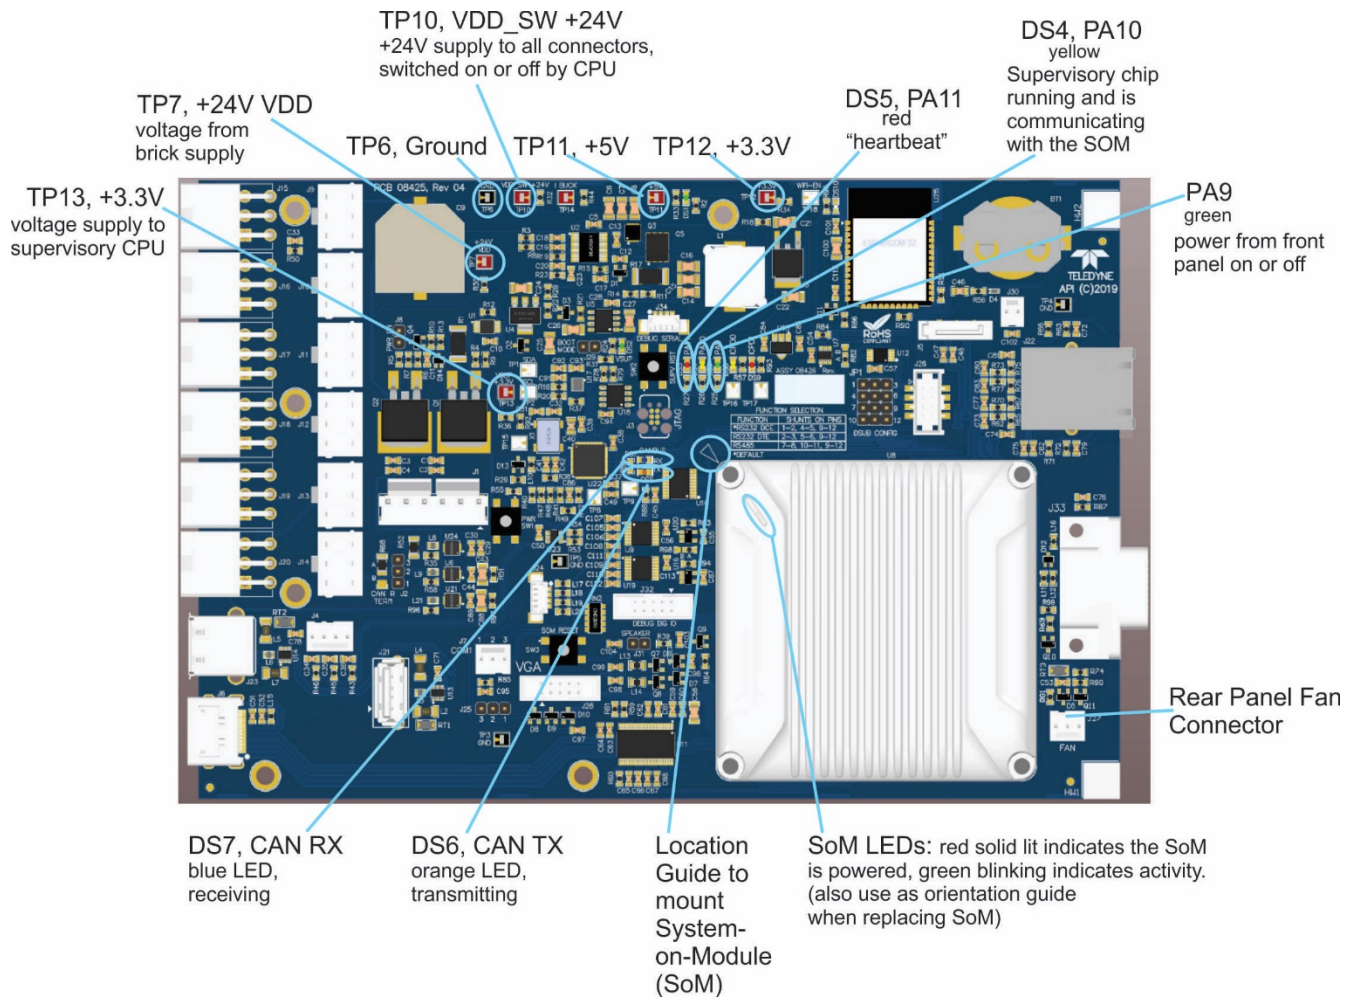

Figure 5-8. N500 Mainboard
3. Use the internal electronic status LEDs to determine whether the electronic communication channels are operating properly. Refer to Figure 5-8, Figure 5-9, and Figure 5-10
The following illustrations show connectors and LEDs that can indicate where issues may lie. Figure 5-8 shows the layout for the mainboard; Figure 5-9 shows the layout for the CAPS DAQ smart board, and Figure 5-10 shows the layout for the ozone tower smart module.